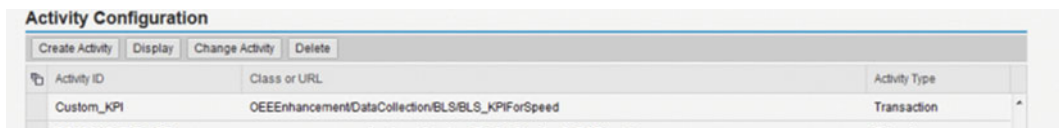

Figure 7-32. Configure custom activity of transaction type
9. Create two custom activities—one for custom extension and another for displaying the custom KPI in OEE dashboard. Please refer to the steps mentioned in earlier scenarios to create a custom activity for adding this transaction (created in step 1) as a custom extension. Refer to Figure 7-32.